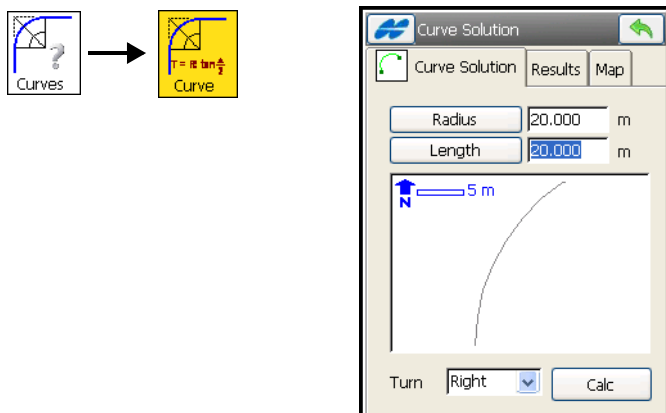

Figure 10-8. Curve Solution.
1. On the **Curve Solution** screen, select the curvature parameters of the curve (*Radius, Deg Chord, or Deg Curve*) and the length parameter of the curve (*Length, Chord, Tangent, Mid Ord, External or Delta*), and the turn direction (Figure 10-8).